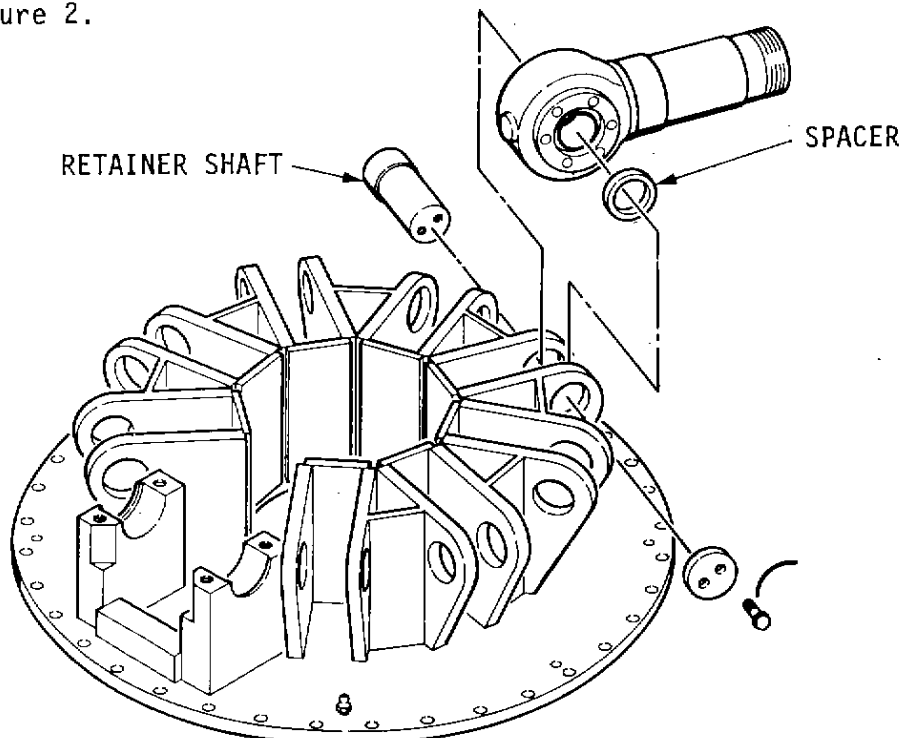

FIGURE 2
- b. Check the location of the spacer. The spacer must be installed on the side of the spindle opposite the large end of the retainer shaft as shown in Figure 2.